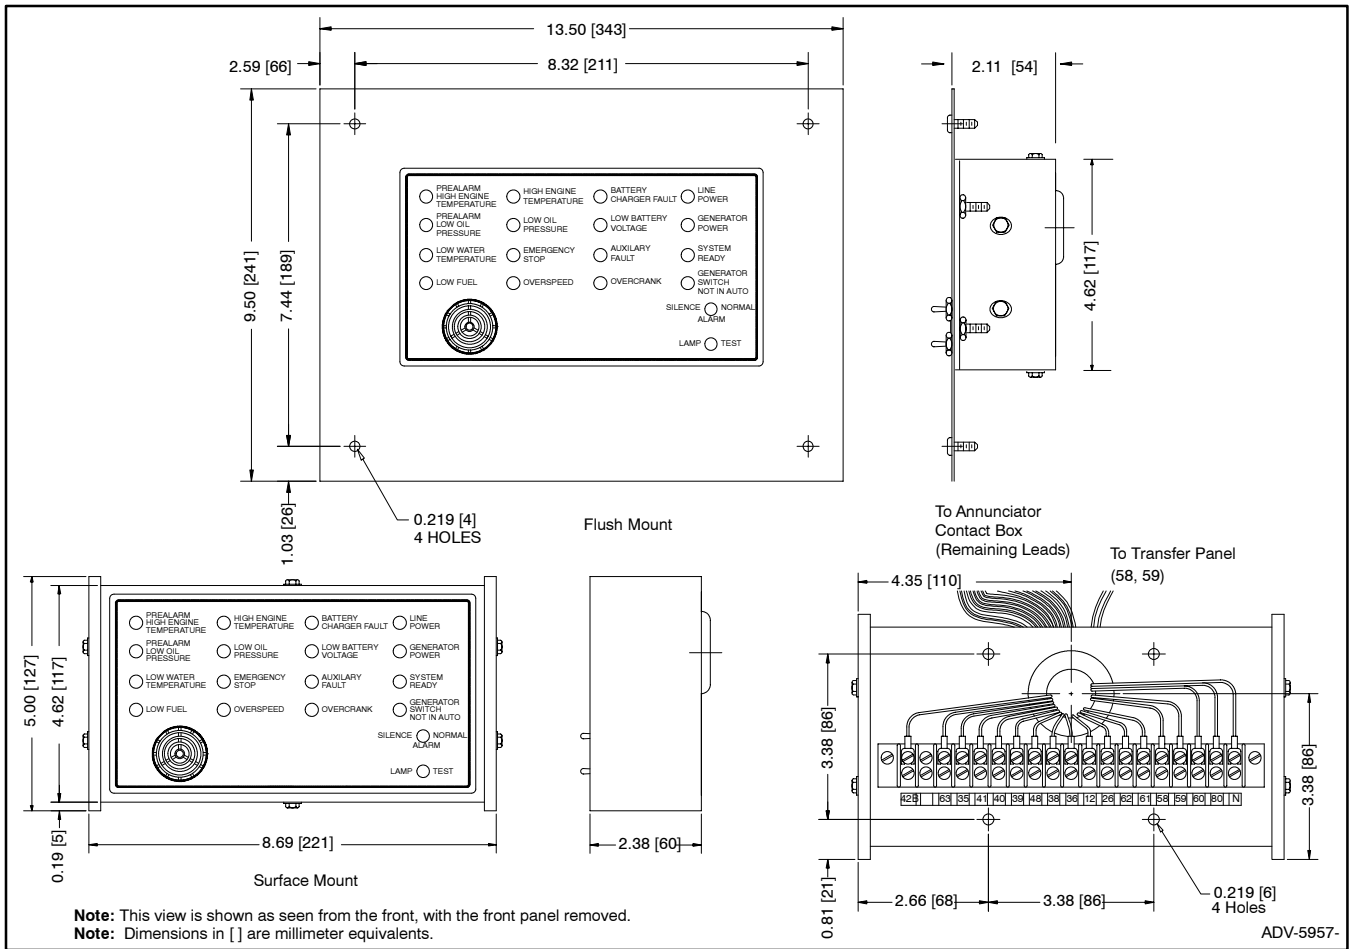

Figure 6 Component Dimensions
- 4.1 Select a visible location for mounting the remote annunciator panel up to 305 m (1000 ft.) from the controller. Install the remote annunciator panel, either surface- or flush-mounted, in a location easily observable by operating personnel at their work stations. See Figure 6 for remote annunciator dimensions and mounting hole dimensions.
- 4.2.4 Mount the remote annunciator back panel to the wall or to the electrical box in the wall. See Figure 6 for the mounting hole dimensions. Protect the remote annunciator from dust and debris when drilling the holes.